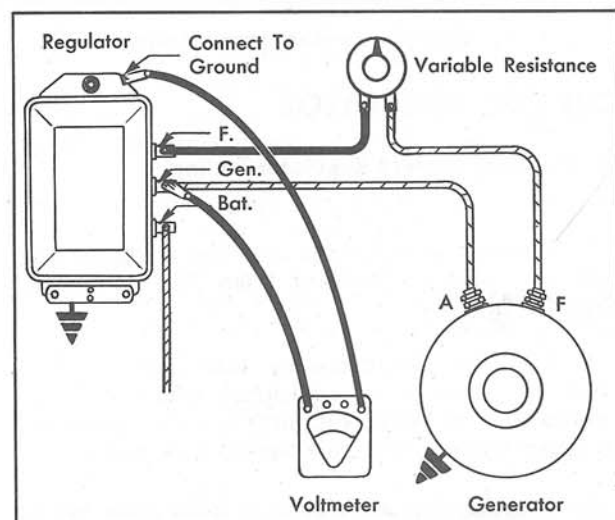

Fig. 12-3 Checking Cut-Out Relay Closing Voltage
1. Connect a voltmeter between the regulator "GEN" terminal and ground, Fig. 12-3.